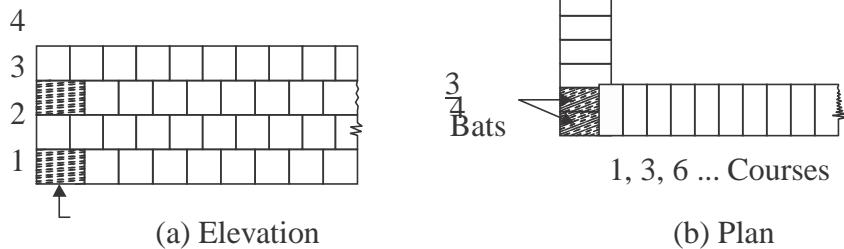

Fig. 2.6.2 Header
2. Header Bond: A header is the shorter face of the brick as seen in the elevation. In a standard brick it is $90 \text{ mm} \times 90 \text{ mm}$ face. In header bond brick masonry all the bricks are arranged in the header courses as shown in Fig. 2.6.2. This type of bond is useful for the construction of one brick thick wall